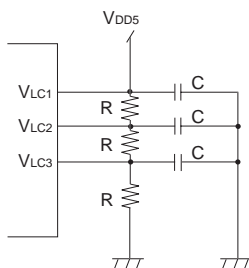

Figure:15.3.3 Supplying Voltage to V_{LC1} to V_{LC3}
2. The LCD power supply V_{LC1} to V_{LC3} is supplied as shown in the following Figure:15.3.3. V_{LCD} value varies depending on the type of LCD. Refer to the specifications of LCD for the appropriate value.
In Figure:15.3.3, a bypass capacitor C (about 0.1 μ F) is used to lower the impedance of power supply.